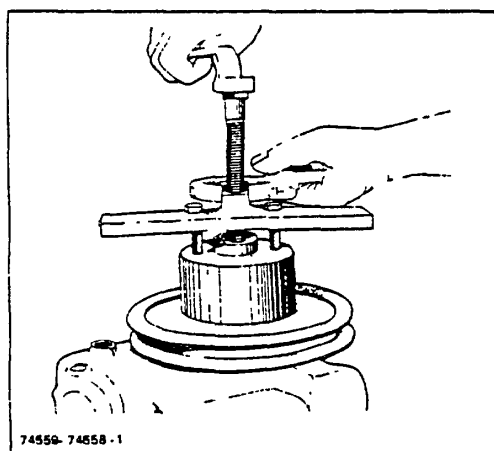

Figure 2-3. Removing Water Pump Pulley
2. Use a puller to remove pulley from shaft, see Figure 2-3.